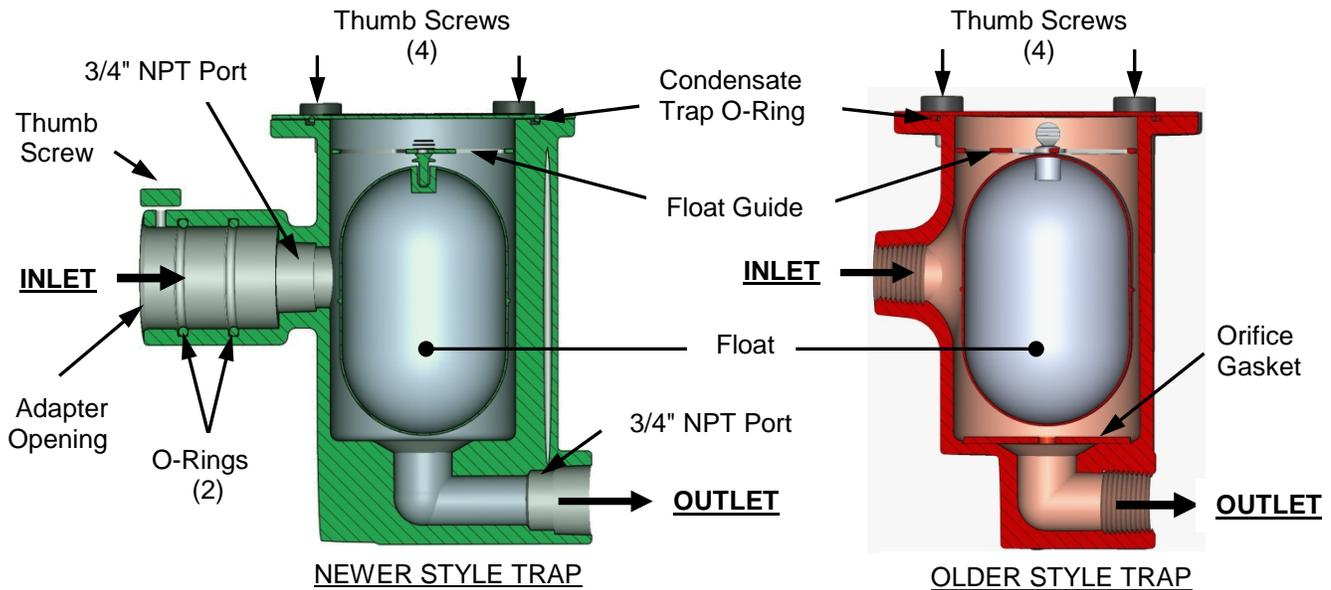

Figure 6-9. External Condensate Trap– Cross-Sections
Currently, two styles of the condensate traps are in use. Both styles perform the same functions and contain identical internal floats. However, the older style has a separate inlet adapter and the newer style contains a built-in adapter. Refer to Figure 6-9. Maintenance tasks for both styles are basically identical, however the newer style does not require an orifice gasket.
2. Remove the connections on the inlet and outlet sides of the condensate trap shown in Figure 6-9.
3. Loosen the four (4) thumbscrews securing the cover on the condensate trap. Remove the cover.
5. For older style condensate traps, remove the orifice gasket shown in Figure 6-9.